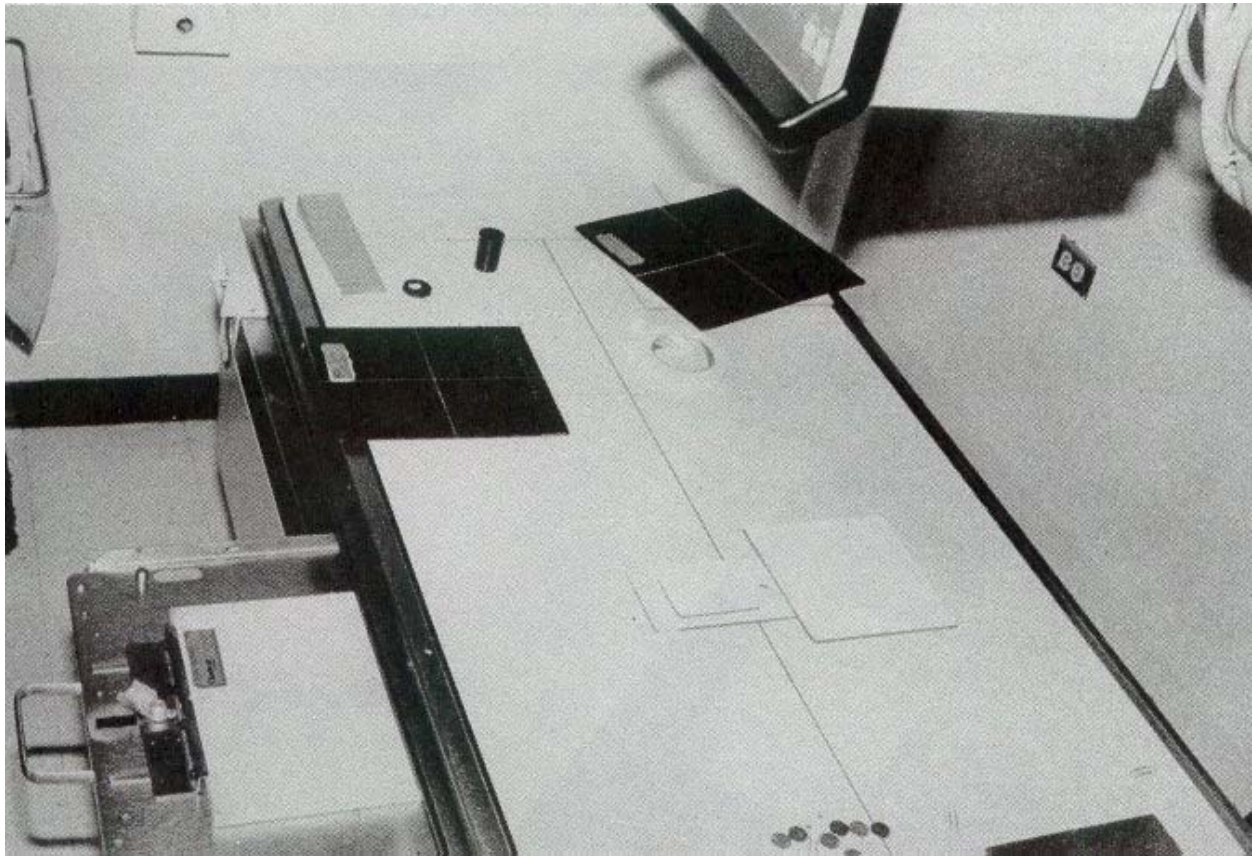

Figure 10-1. Grid alignment test tool at zero position centered.
- (1) Adjust the tube perpendicularly (crosswise) to the table.
- (2) Use the proper SID for that table's grid (usually 40, but not always).
- e. Position the grid alignment test tool on the tabletop with the tool in a perpendicular position to the long dimension of the x-ray tube. Then center the zero position of the test tool to the optical cross hairs of the beam restriction system. Ensure that the orientation arrow is toward the front of the x-ray table (see figure 10-1).